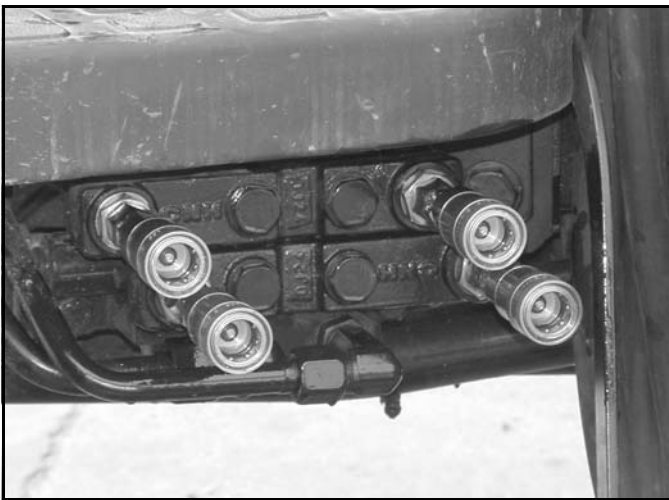
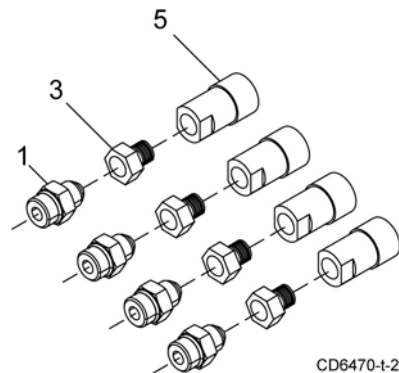

Figure 32. Hydraulic Fittings Installed
Figure 33. Hydraulic Fitting Installation
2. Install adapters (1), adapter (3), and female half of quick coupler set (5) to each of the tractor valve ports. See Figure 32 and Figure 33.